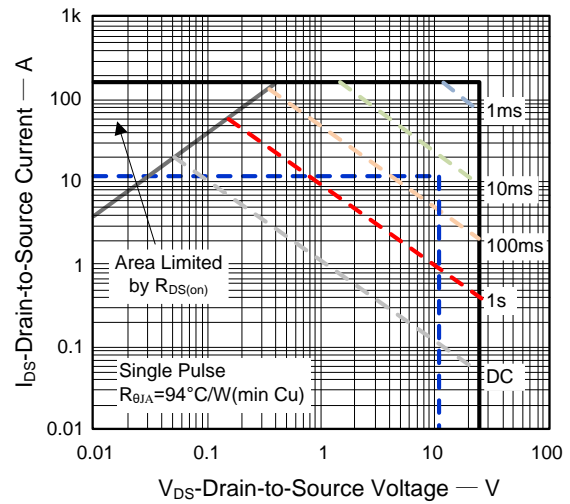

Fig 15 CSD16403Q5 SOA Curve
where  $C_{ISS}$  is the MOSFET input capacitance and  $I_{GATE}$  is the minimum gate sourcing current of SQ24903, or  $20\mu A$ . Using the example parameters in Equation (11) and the CSD16403Q5 datasheet leads to a minimum fault time of 1.642ms. This time is derived considering the tolerances of  $C_{OUT}$ ,  $C_{ISS}$ ,  $I_{LIM}$ ,  $P_{LIM}$ ,  $I_{GATE}$ , and  $V_{VCC(MAX)}$ . The fault timer must be set to a value higher than 1.642ms to avoid turning off during start up, but lower than any maximum fault time limit determined by the SOA curve (see Figure 15) derated for operating junction temperature.